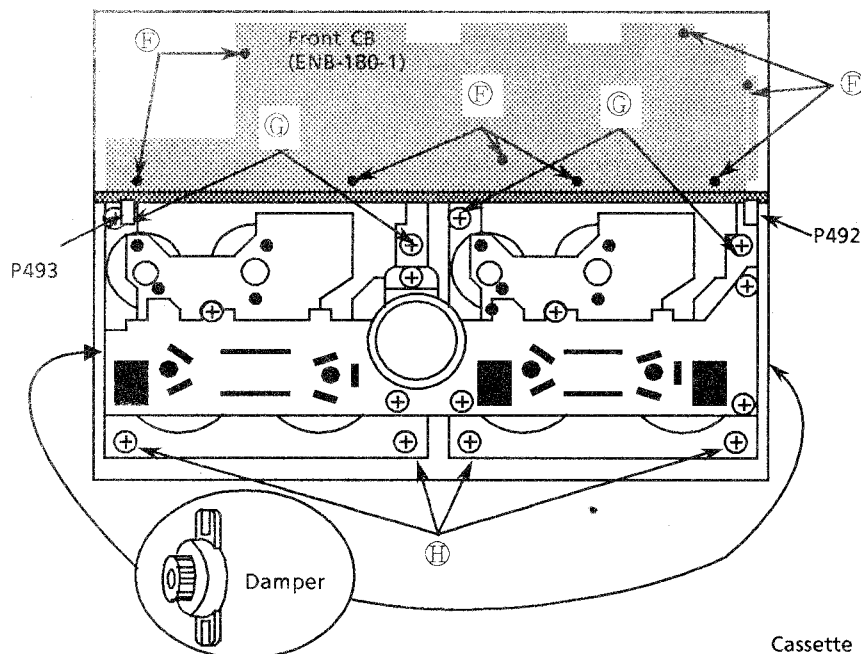

Figure 5 Back of the front panel assembly
3. Disconnect the connectors P492, P493 on the deck control circuit board (Figure 5).
4. Remove the 8 screws ③ and ④ fixing the assembly.